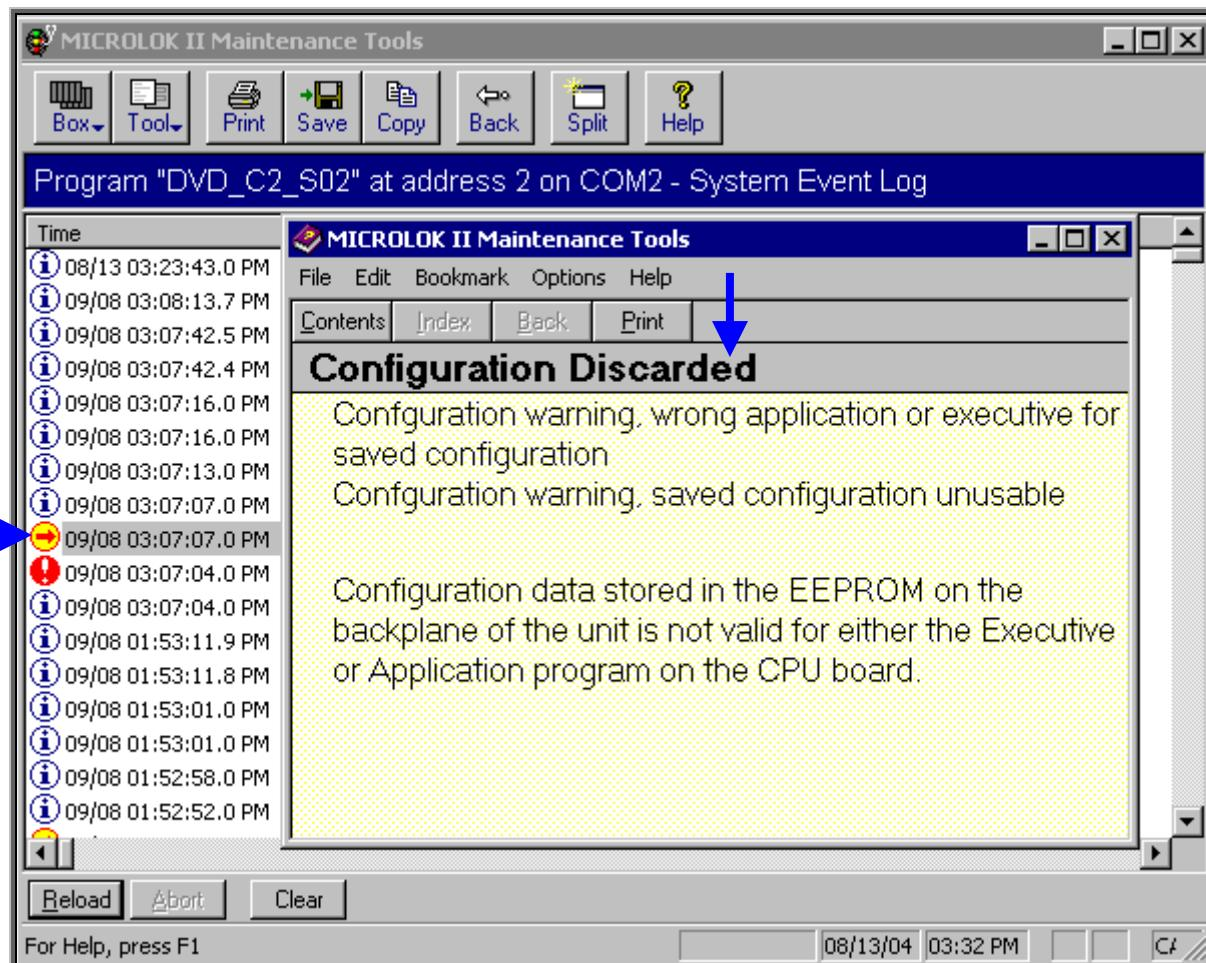

Figure-5.6.3.3.1
- ❖ To get help on any particular event, error, or warning, highlight the time of the event by clicking on it and then press the F1 key. A help box on that event, error, or warning will appear as shown in Figure-5.6.3.3.1.